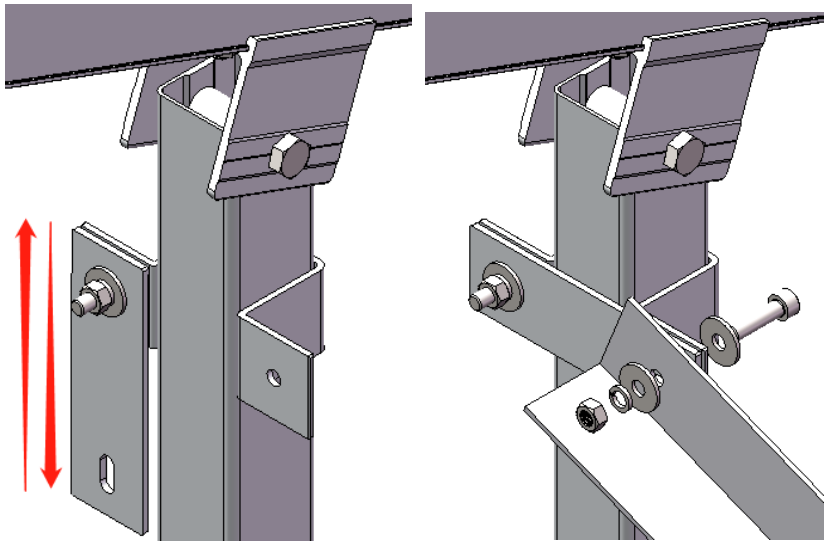
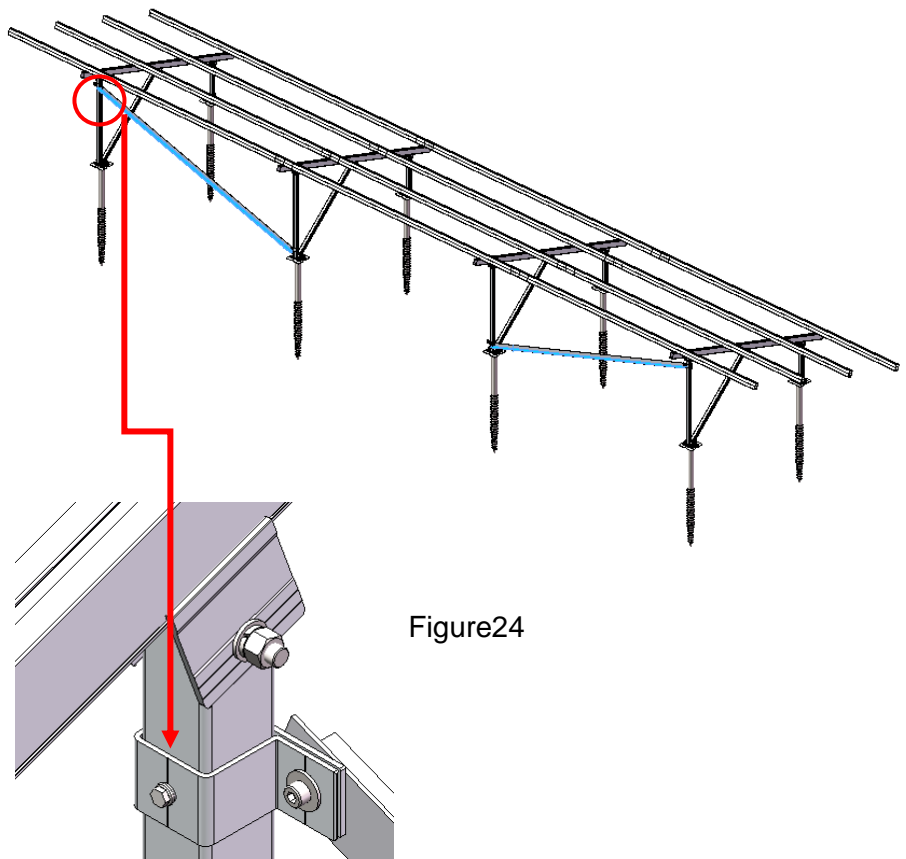

Figure23
Figure24
4.5.1 According engineer plan, lightly lock Connector for Rectangular Tube on the rear leg of Support as shown in Figure 23. Insert M8*30 through the hole on Angel AL. Lightly lock another Connector for Rectangular Tube on the next span rear leg and adjust its position to lock the Angel AL and make it be in tension status. Use Self-tapping screw ST6.3*22 to fix Connector for Rectangular Tube and fasten all bolts as shown in Figure 24.